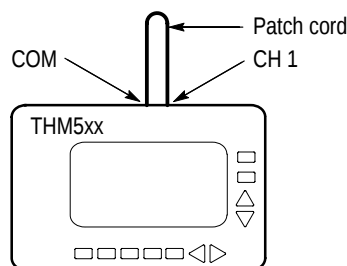

Figure 5: Trace Shift Test Setup
2. Use a patch cord to short the COM and CH 1 inputs as shown in Figure 5.